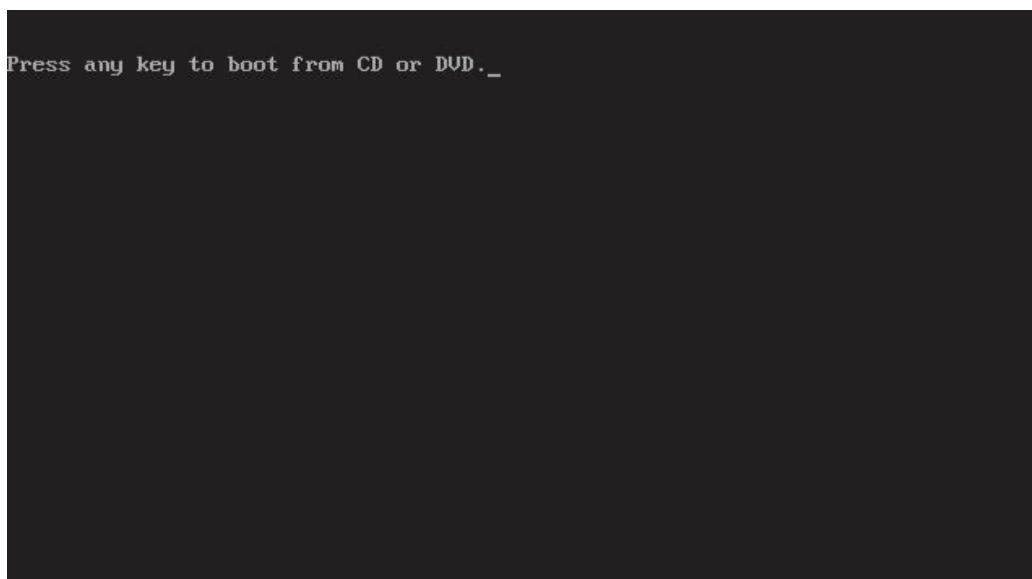

Figure 8.4
- When the system starts up, watch for the message “Press any key to boot from CD or DVD.”. Please see Figure 8.4.